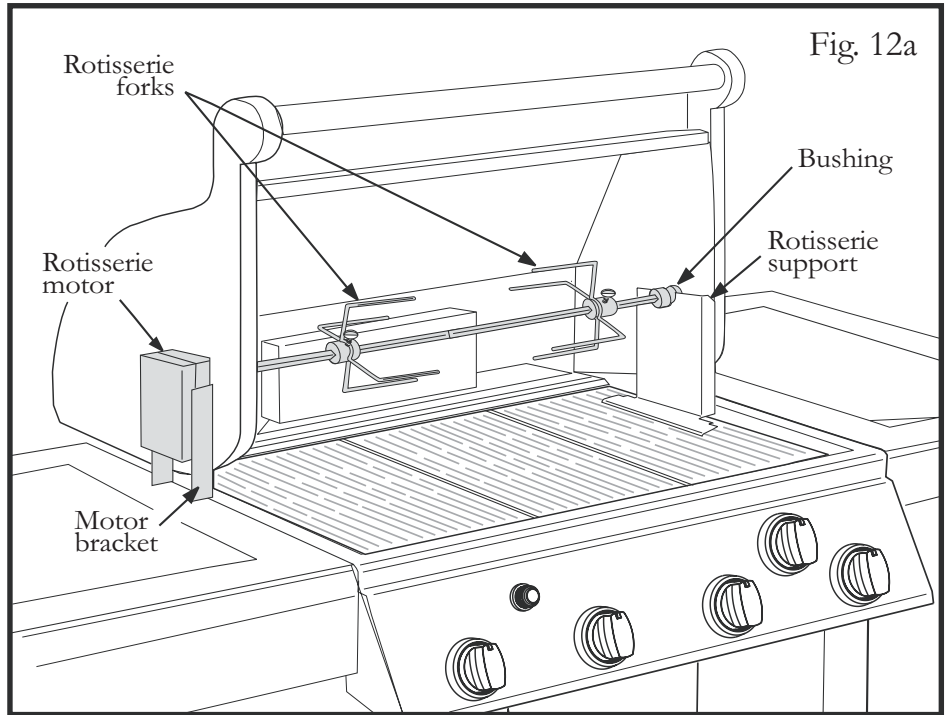

Fig. 12a
2. Insert the ends of the Rotisserie Support into the slots of the right cooking grate, so that the edge of the support is approximately 1" from the right casting, and the top groove is in line with the rotisserie spit hole in the left casting (see Fig. 12a).
4. Engage the Rotisserie Motor in the Motor Bracket (see Fig. 12a).
5. Assemble the spit and meat forks. Adjust the retainer bushing to keep the spit in place (see Fig. 12a).